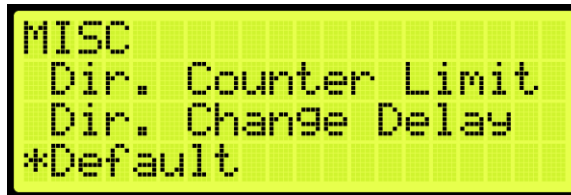

Figure 455: MISCELLANEOUS Menu – Default
- From the MISCELLANEOUS menu, scroll and select Default (See Figure 455).
2. From the MISCELLANEOUS menu, scroll and select Default (See Figure 455).